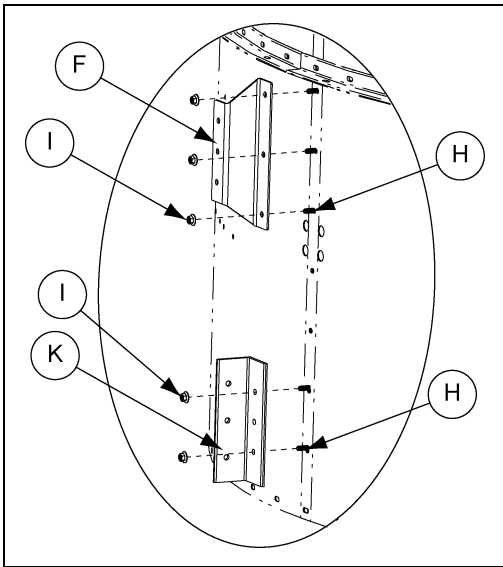

Figure 3B
1. Install bracket (F) and clip (K) to the burner panel seam right below the bottom burner ring using bolt (H) and nut (I). (See Figure 3B.)